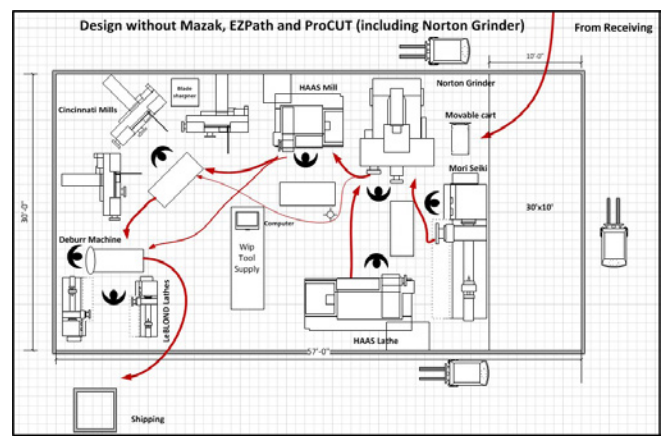

**Figure 4a—Material flows for a part family prior to implementation of its machining cell.**
*Exploit the cellular layout of the shop floor to foster a culture of teamwork:* The key to successful implementation of a cell is to colocate all its machines, personnel and support services in one area. Figure 4a and Figure 4b display the material flows for the part family that was being produced in a machining cell before and after re-layout, respectively. If a cell is implemented with management's support, it will 1) have manufacturing focus, 2) retain operational flexibility bounded by the parametric limits of a part family, 3) foster a culture of continuous improvement within a group of employees that accepts performance metrics that do not promote selfish, individualistic and elitist behavior, 4) promote a sense of ownership in every member of the cell's team and 5) encourage management to give some level of self-governance and autonomy to the cell's team so they can complete and ship products to their customers. But, from a management perspective, if they wish to discuss performance or delivery issues involving a certain part family, they will need to take much shorter walks by visiting that one cell which is producing those parts.